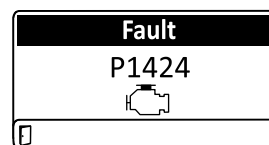

Figura 53
- Engine warning (Avertisment motor) (Figura 53)